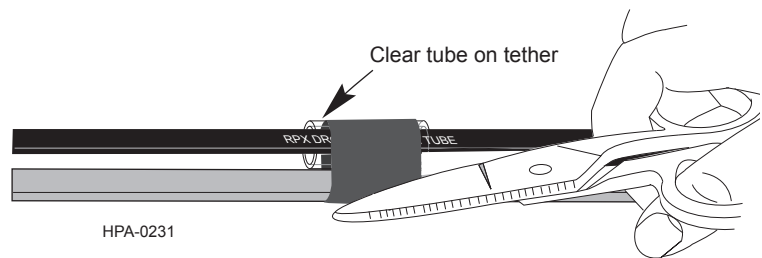

Figure 20
**Step 1:** Starting at the FS of the TAP, use scissors to carefully cut the black tape wraps away from the cables. Make sure not to cut the tether or the local cable during this process (Figure 20).